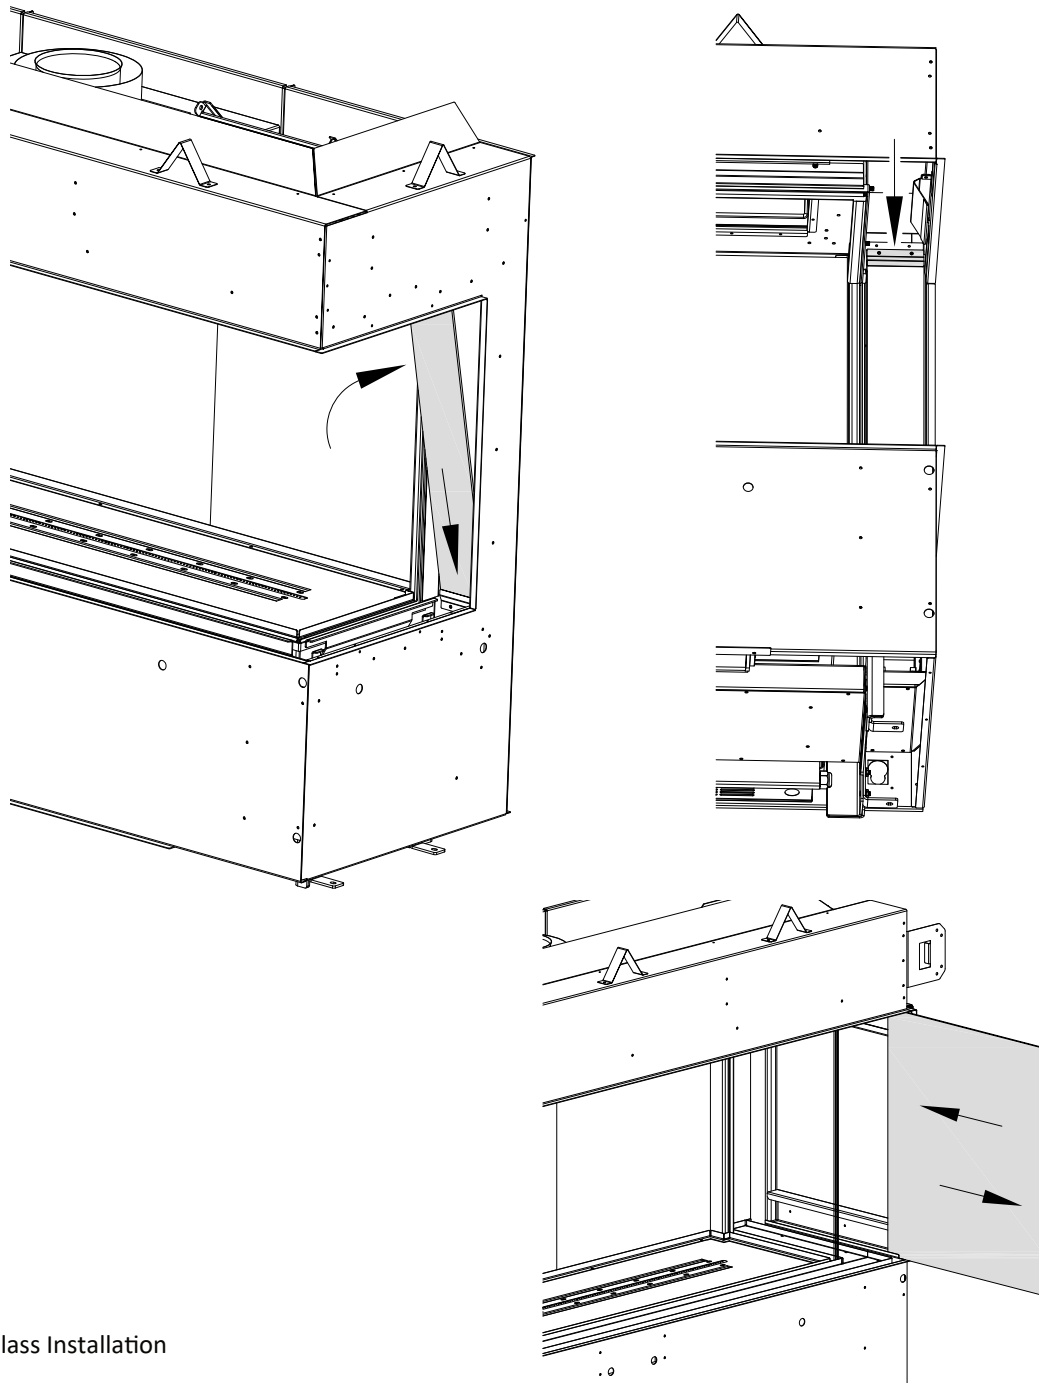

Figure 4.12 - Black Glass Installation
3. Install the (2) rear exterior perimeter black glass panels by tilting them sideways until you get them to the back of the fireplace. Place the bottom edge of the glass down into the preinstalled bottom perimeter panel clip and tilt into place. Use the supplied perimeter panel clip and secure on the top of the glass with (2) sheet metal screws. See Figure 4.12.
4. Corner Installation only - Install one side black glass panel by sliding them into position as shown in Figure 4.12.